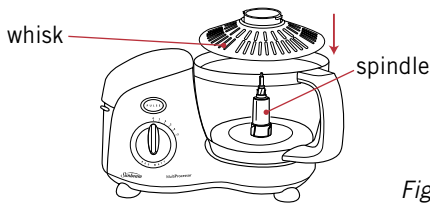

Fig 10
2. Fit the whisk attachment over the spindle and press firmly into place, see Figure 10.